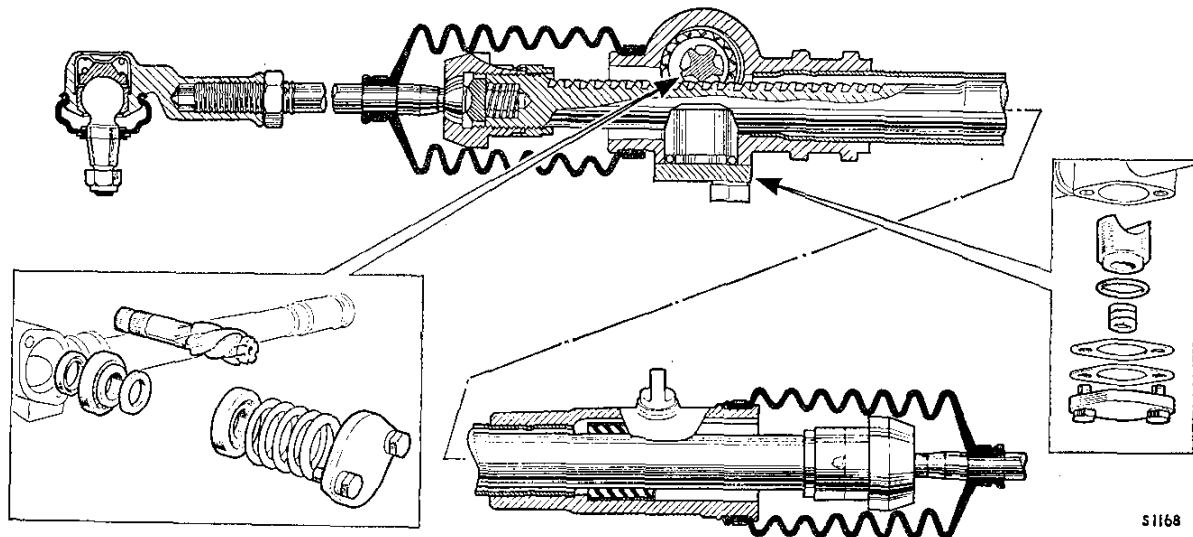

Fig. J.3
- (28) *Pinion adjustment (early models)*. Refit the cover without the shims, but do not over-tighten the screws. Measure the gap between the cover and the housing. Remove the cover and add shims to the thickness of the measurement minus .002 in. (.05 mm.). Refit the cover with jointing compound.
- (29) *Pinion adjustment (Mk. II models)*. Refit the pinion and bearings as shown in Fig. J.3. Add sufficient shims together with the spacer washer to provide a clearance of approximately .010 in. (.25 mm.) between the rack housing and the cover plate. Fit and lightly tighten the cover plate. Take a feeler gauge measurement of the clearance (A) and reduce the shimming by the measurement taken,